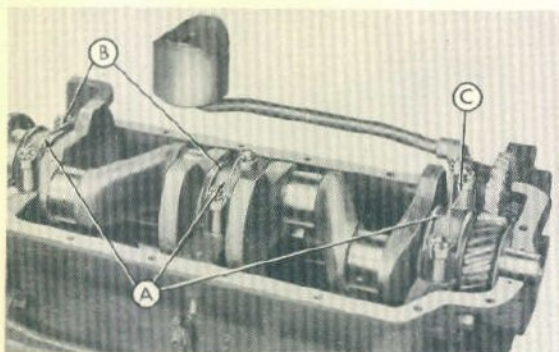

Fig. 4
Step 4—Remove the safety wire from the nuts on the main bearing caps (A-Figure 4).
Step 5—Remove the front main bearing cap and oil pump assembly (C-Figure 4).
Step 6—Remove the center and rear main bearing caps (B-Figure 4).